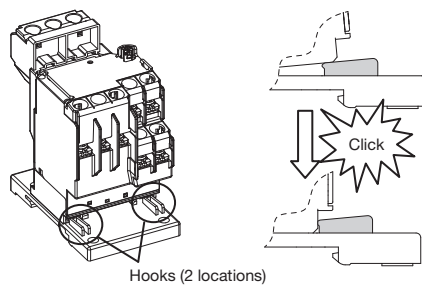

Fig. 2
- [3] Press the thermal overload relay in the direction of the arrow, and confirm that the lower section of the thermal overload relay is securely engaged with the hooks (2 locations) of the separate mounting unit (see Fig. 2).